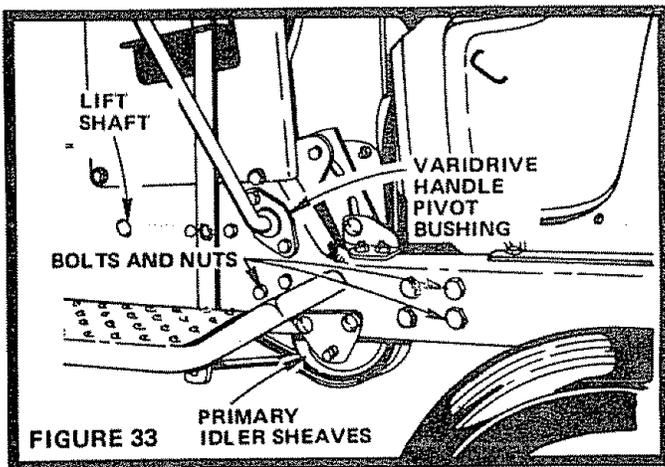

FIGURE 33 PRIMARY IDLER SHEAVES
- Lift Shaft (Fig. 33).
- Varidrive Handle Pivot Bushing (Fig. 33).
- Remove 3 Bolts and Nuts holding Primary Idler Sheaves to Frame (Fig. 33).